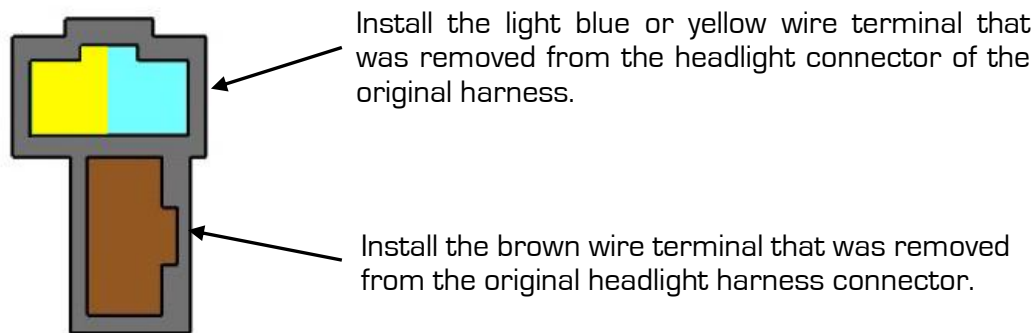

Figure 36 - End View (Harness Side)
33. Install the wire terminals which were just removed from the original headlight harness connector into the included black two terminal female Packard connector cavities (Figure 36).